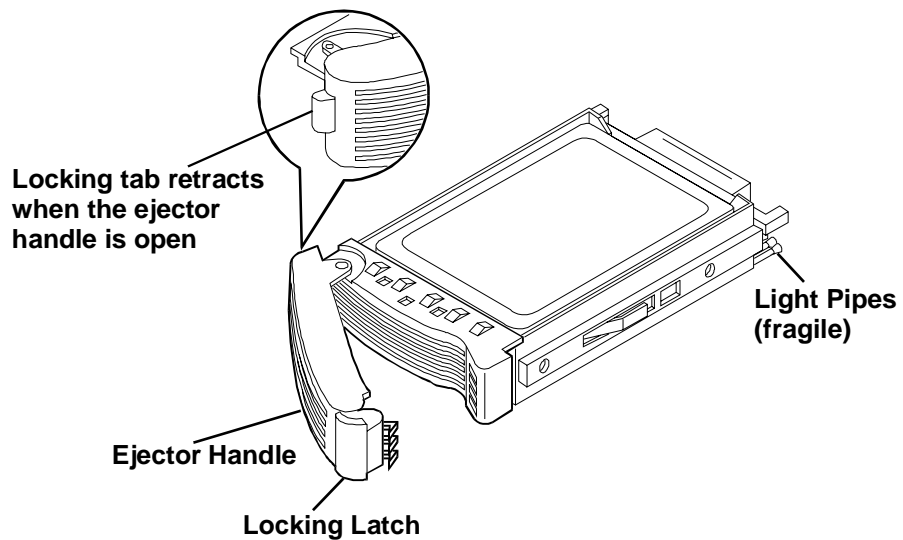

Figure 6-4. Ready Drive for Installation
3. On the drive, press the locking latch in and pull the ejector handle out as far as it can go, as shown in Figure 6-4.